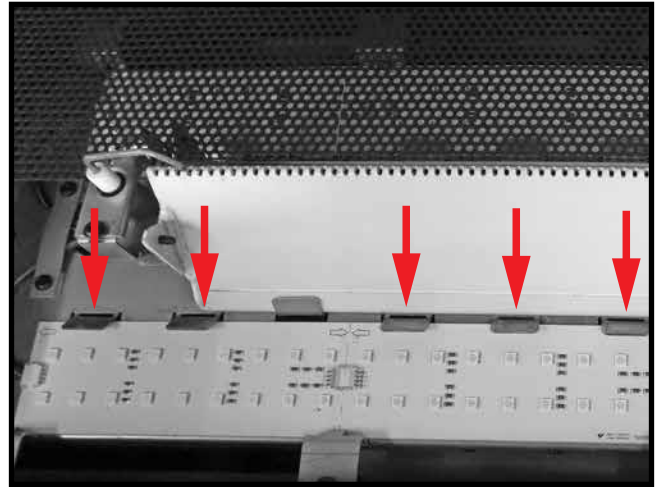

Figure 61: LED strip hold down tabs.
6. The LED sections and rows are held in place by hold down tabs (Figure 61). These tabs can be lifted up so that the LED section can be removed.